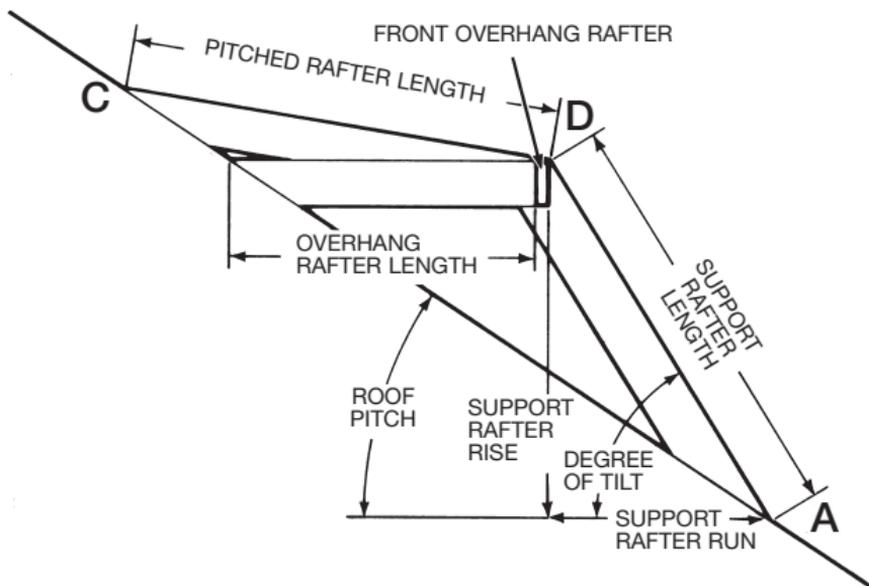

FIG. 21 Rafter Layout For A Solar Panel.
Next we need to find the horizontal overhang length (see Figure 21). It is found by finding the roof run between points A and B and
STEP 2. RAFTER LAYOUTS: The support rafter bottom cut layout (at point A on Figure 21) will be made similar to a pitched door overhang. Drape the square "T" over the top (or outside) edge of the support rafter and hold the square firmly against the rafter. Then make a mark, using the angle scale, next to the angle that is found by subtracting the roof pitch angle (the roof inch rise in degrees) from the support rafter inch rise angle. In our example, we have $57 \frac{3}{4}^\circ$ (for the 19 inch rise support) minus $33 \frac{3}{4}^\circ$ (for the 8 inch rise roof) or 24° . From this mark, draw a line to the pivot point and you will then have the bottom cut layout. The support rafter top cut layout (at point D in Figure 21) is similar to the bird's mouth layout. First measure up the outside of the rafter the rafter length from the bottom cut and then draw a plumb line using the support rafter inch rise. Now, instead of measuring down the seat depth, measure down the overhang rafter width and make a horizontal line going to the roof edge of the rafter.
The pitched rafter top cut layout (at point C in Figure 21) is the same as the support rafter bottom cut layout (at point A). For the